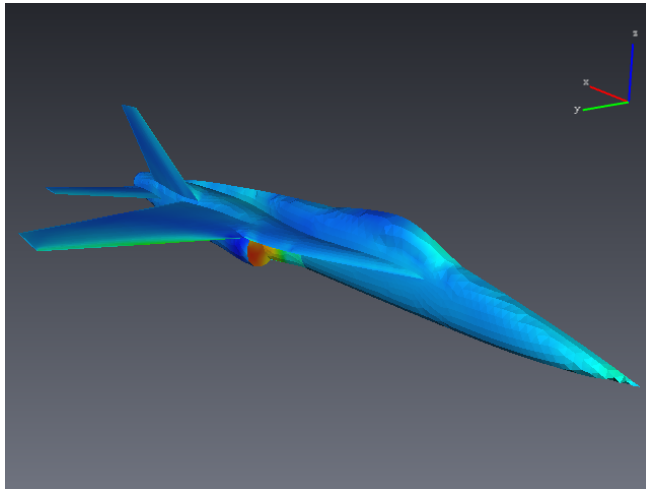

Figure 13.75: Pressure field on the boundaries of a YF-17 Cobra aircraft.
- Enlarge the view and rotate it in order to get a better image of the aircraft (see Figure 13.75).